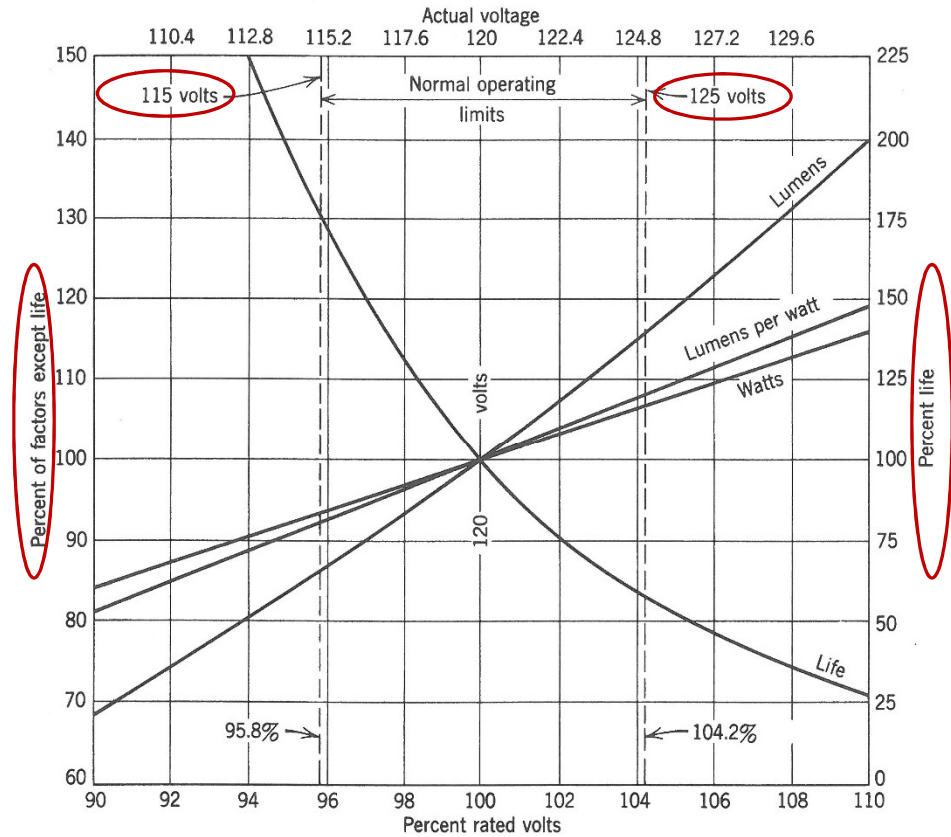

Fig. J.2 Characteristics of a standard 120-V general-service incandescent lamp as a function of voltage. This figure from 10th Ed.
- In stadium installations (yearly lamp operation  $\leq 200\text{h}$ ), 10% overvoltage operation **doubles** the light output but still allows a once-a-year off-season relamping  $\rightarrow$  a highly economical procedure. (Refer to Fig. J.2)